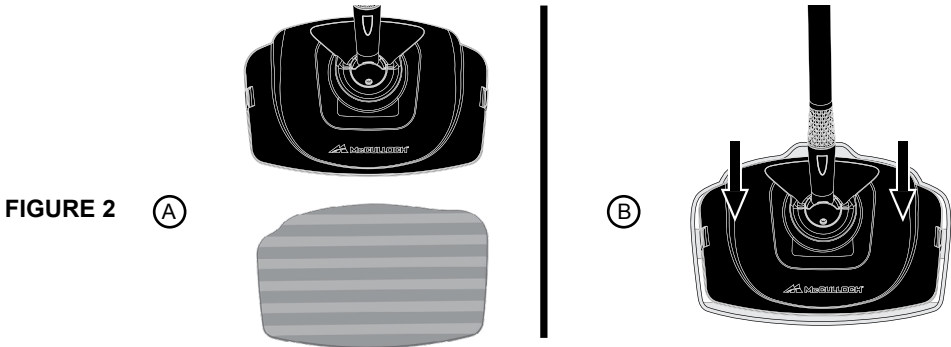

FIGURE 2 (A)
2. Align Mop Head with Microfiber Pad. Make sure Mop Head is oriented with Pad as shown, and centered as best as possible (See figure 2-A).
3. Press Mop Head firmly down onto Microfiber Pad. Fastener strips will adhere to Pad Grips on underside of Mop Head. Pad should now be attached and ready for use (See figure 2-B).